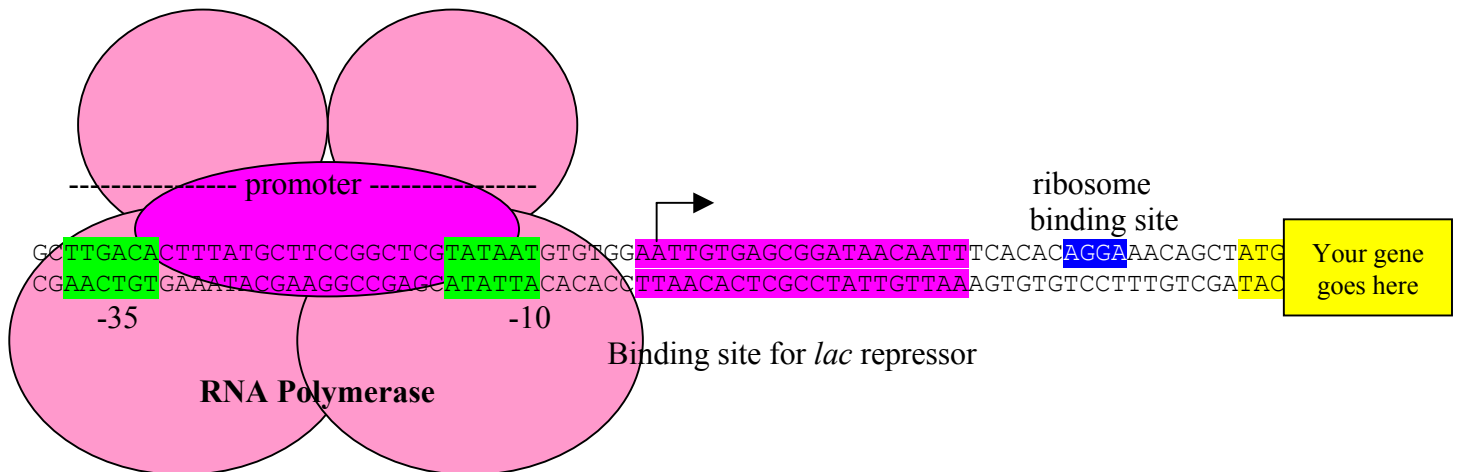

Fig. 1. Transcriptional Fusion between the *lac* regulatory region and a foreign protein.
**Transcriptional fusions** have proven useful in helping us regulate the amount of foreign protein expressed in a bacterial cell. One of the oldest yet still amongst the most effective ways of doing this is to fuse a souped up version of the regulatory region of the *lacZ* gene to the foreign gene to be expressed (Figure 1). Once this is accomplished, the foreign gene will not be expressed when the *lac* repressor binds to the regulatory region but will be highly expressed when the repressor is removed. Since the binding of the repressor is sensitive to sugars in the environment, the process is under our control.
You isolate the gene encoding UDP-glucose dehydrogenase from the bacterium *Mesorhizobium loti* (chosen because of the superior qualities of the enzyme in industrial applications). The gene is transcriptionally fused to a modified *lac* regulatory region, as shown in Figure 1 and cloned in *E. coli*. DNA cloning involves the insertion of a gene into a self-replicating genetic element, typically a plasmid. A plasmid is an extra-chromosomal, circular piece of double stranded DNA found in bacteria. During cloning, a DNA fragment containing the gene of interest is joined to plasmid DNA by digestion with restriction enzymes. The vector DNA and the DNA fragment with the gene are cut by the same restriction enzyme, leaving complementary cohesive ends on each strand. The ends from each DNA fragment base pair, causing the DNA fragments to anneal and to form a recombinant DNA molecule. Next, this vector with the inserted gene is introduced